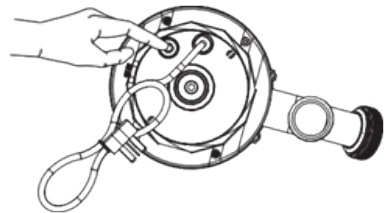

Figure 25
- 4 Press the red reset switch button on the side of the machine (see Figure 25). If the bottom is overheated, do not reset forcibly. After 30 minutes of product cooling, do the reset operation.